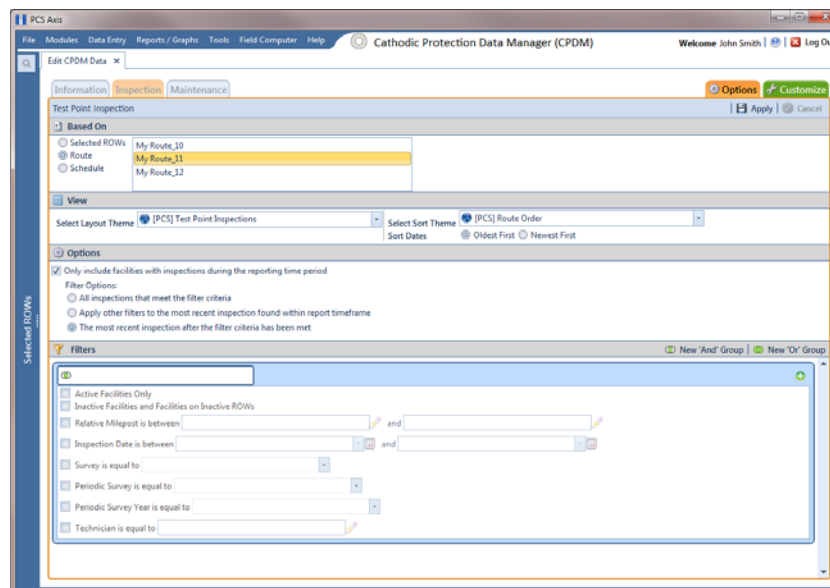

Figure 6-27. Based on Route
- b Click the **Options** tab  to open the options page and then complete the following steps (Figure 6-27, page 188):
- a To change the grid layout theme, click the down arrow in the field **Select Layout Theme** and select a theme in the selection list (Figure 6-27).